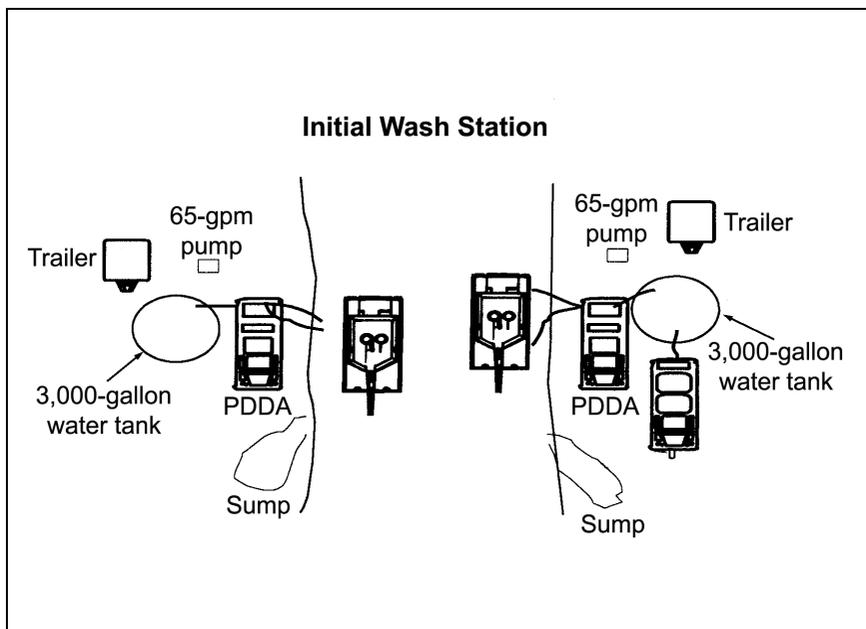

Figure 03-4-D0011-1. Initial Wash Station Setup
1. Soldiers position the initial wash station within the decontamination site (see Figure 03-4-D0011-1).